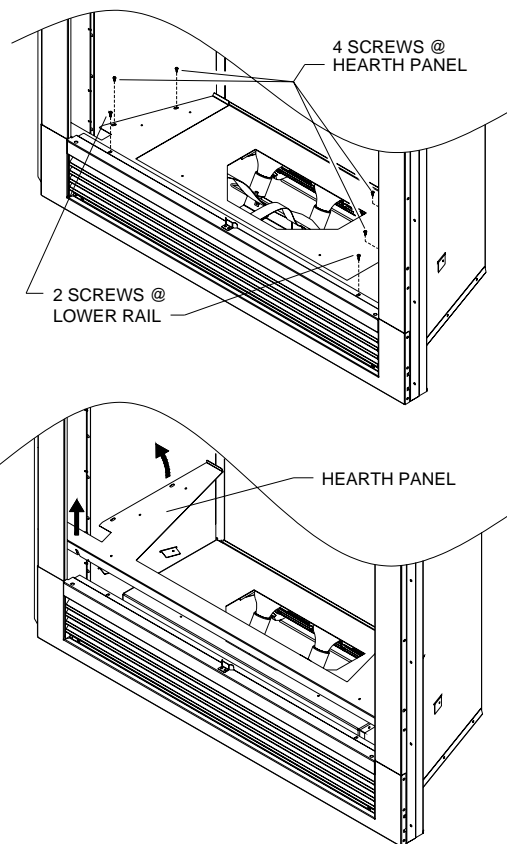

Figure 33 - Removing Hearth Pan
3. Remove 4 Phillips screws holding the hearth pan to the firebox and 2 located at the lower frame rail (see **Figure 33**).
4. Lift the rear ends of the hearth pan up until the front edge clears the lower frame rail then slide up on one end and angle out of the firebox opening. See **Figure 33**.